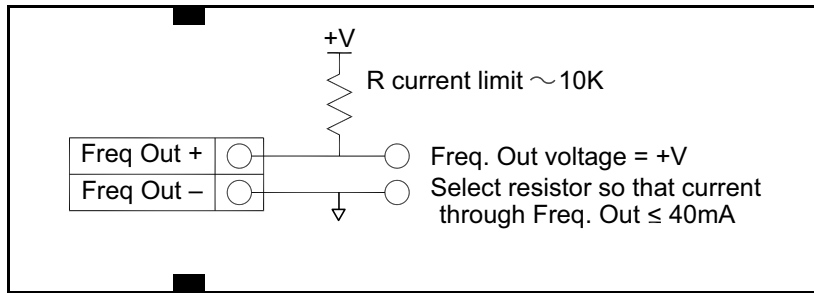

Figure 39: Isolated Frequency Output Using External Power Supply
- For AC or DC powered meters, use a separate 5 to 36 VDC power supply (see *Figure 39 on page 43*). Use this option if a specific voltage is needed for the frequency output.